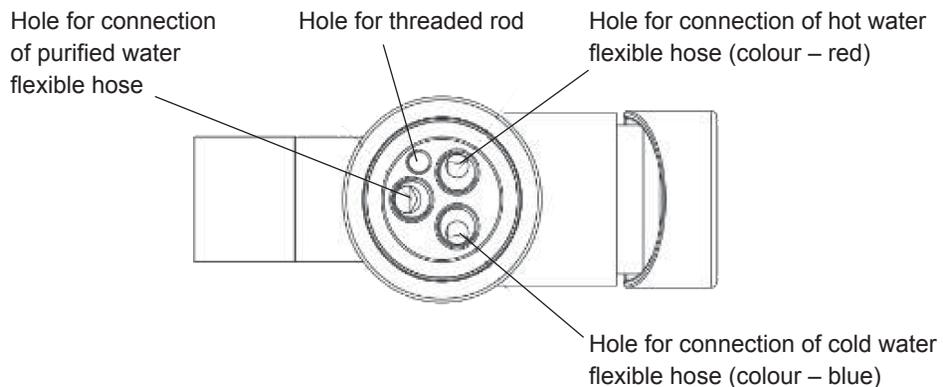

Figure 2. Flexible hoses and threaded rod connecting
2. Screw the flexible hoses into the holes (3 pcs.), located at the bottom of the faucet body (12), guided by the colour designation liner and instructions in Figure 2. To connect Water purifiers that use tube JG 1/4 ", use an adapter (included).
3. Screw threaded rod (23) to the internal thread of the faucet body (12).
4. Insert hoses and then the threaded rod (23) in the aperture of the kitchen sink.
5. From the bottom of the sink put on the gasket (25) and shaped collar (26) on a threaded rod and screw on the screw nut (24).
6. Place the faucet in a comfortable position and tighten the screw nut (24) to the end.